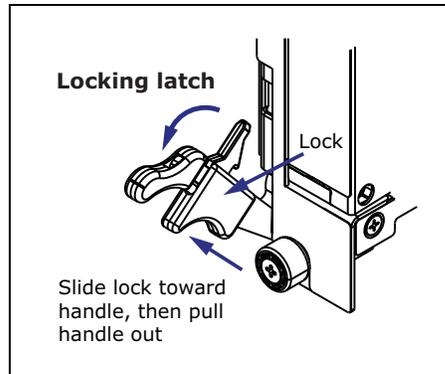

Figure 4.5 - RTM Handle Locking Latch
2. Open both ejector latches on the RTM (Figure 4.5).
If the RTM uses locking ejector latches, do not force the ejector latch open. Make sure the release is pushed in before pulling the handle out. Refer to Figure 4.5.